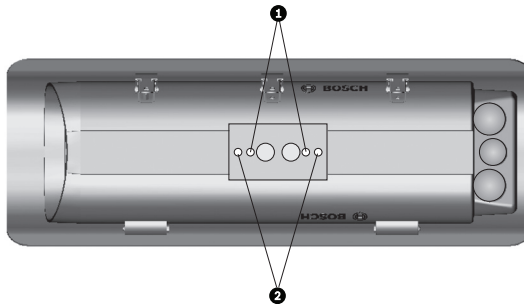

Figure 5.6 Location of feed through wiring holes.
1. Prior to mounting the camera, remove the two dome plugs located inside the housing. See *Figure 5.6*.